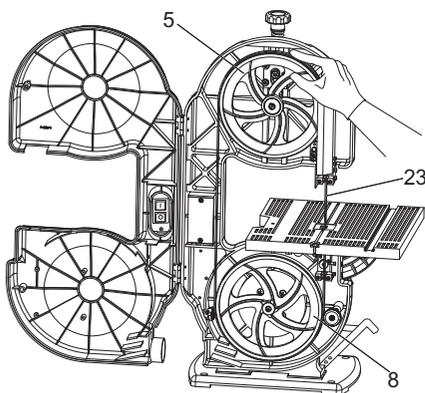

Fig. 14
- > Slowly turn the upper band pulley (5) clockwise by hand. The saw blade (23) should run in the middle of the pulley. If it does not, you will have to adjust the tilt of the upper blade pulley (5). (Fig. 14)
- > After setting the upper band pulley you need to check the blade position on the lower band pulley (8). The blade should run in the middle of the band pulley (8), as above. If it does not, you will have to adjust the tilt of the upper band pulley (5) again. (Fig. 14)